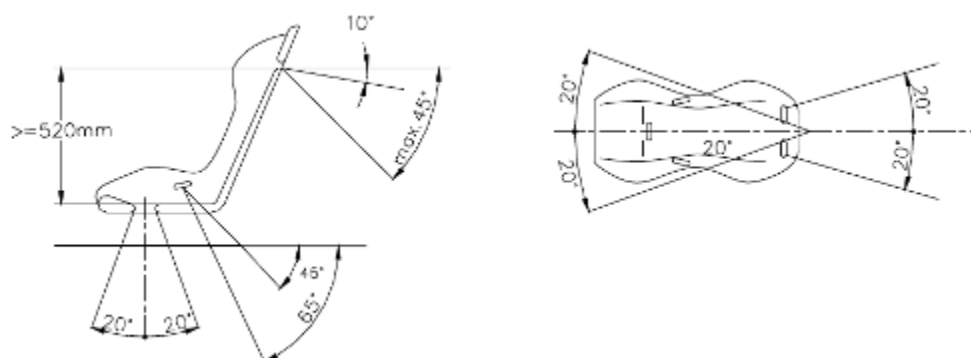

Figure 11
**11.3.** Shoulder straps should be directed downwards and backwards and must be be mounted at an angle of 10° maximum (Figure 11).